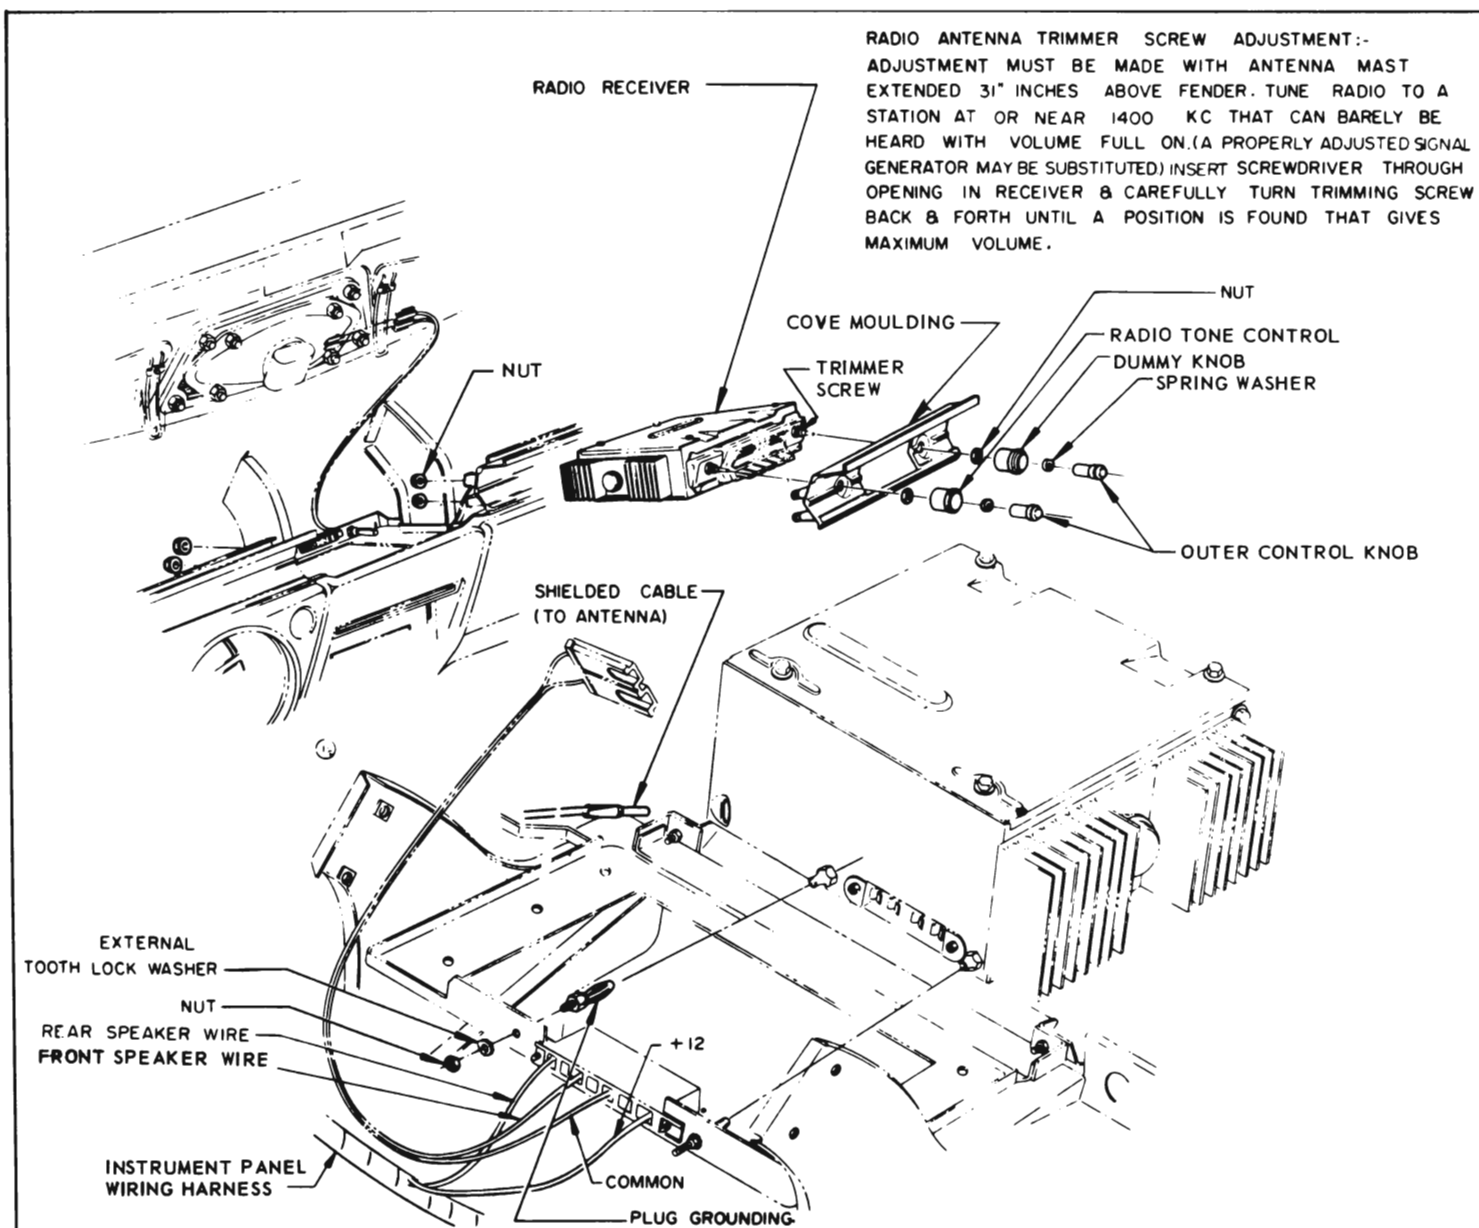

Figure 11-4—Radio Receiver Installation - 45000, 46000 and 48000 Series
2. Remove four nuts holding cove molding to instrument panel and withdraw receiver and molding as an assembly (see Figure 11-4).